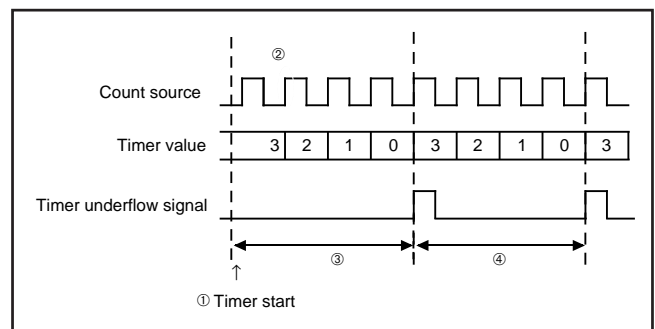

Fig. 29 Count start time and count time when operation starts (T1, T2)
- Count starts from the rising edge ② in Fig. 29 after the first falling edge of the count source, after timer 1 and timer 2 operations start ① in Fig. 29.
- Time to first underflow ③ in Fig. 29 is different from time among next underflow ④ in Fig. 29 by the timing to start the timer and count source operations after count starts.